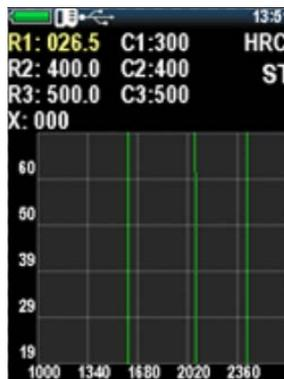

Figure 2.30 - Setting real hardness values
2. To start the calibration, enter the real hardness values of the samples by pressing the key < >. Using navigation keys < > and < > to set up the real hardness values, push < > key to enter the next value (Figure 2.30).